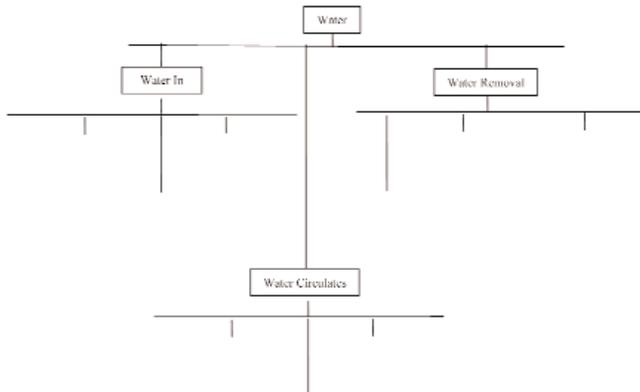

Figure 3—Breakdown of Water Sub-Deliverable
- at times water has to be drained from the pond (distribution of information), as displayed in figure 3.